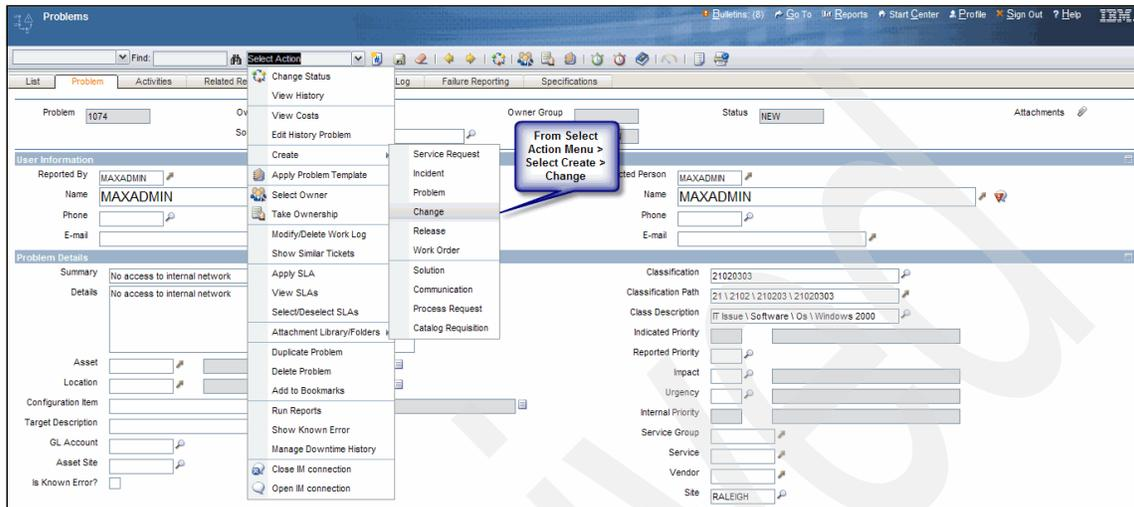

Figure 6-9 Open change option
3. If a change is required to fix the problem, you can open a change from the Select Action menu, as shown in Figure 6-9.